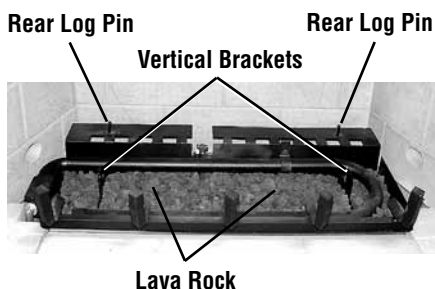
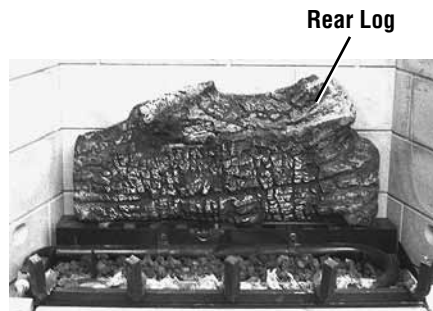
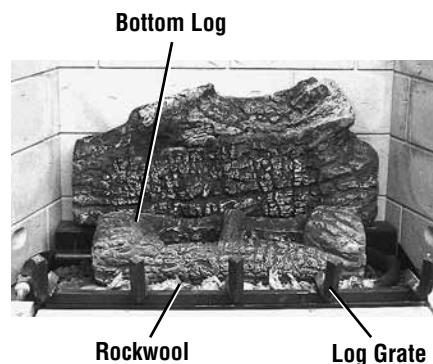

Figure 10
Figure 11
Figure 12
Proper log placement is critical to prevent sooting. Carefully position the ceramic fiber logs over the burner as described in the following steps, and detailed in **Figures 10 through 15**.
Spread 1-1/2 bags of Lava Rock evenly inside of the burner tray, as shown in **Figure 10**. The rest of the 1/2 bag of Lava Rock should be used only on LSBV-42 models, placed on the open spaces on the bottom of the firebox between the refractory and burner tray.
Step 1. To position the logs, begin by placing the rear log in position over the two pins located at the left rear and right rear of the log grate, see **Figure 10 and Figure 11**.
Step 2. Position the bottom log, (see **Figure 10 and Figure 12**) between the two vertical brackets of the burner tray.
Remove the Rockwool from the plastic bag and tear into quarter size pieces, as shown in **Figure 12**. Spread across the front part of the burner. Do Not use more than is necessary to cover the burner. When properly positioned, the Rockwool will unevenly cover approximately 85% of the burner with no appreciable gaps.